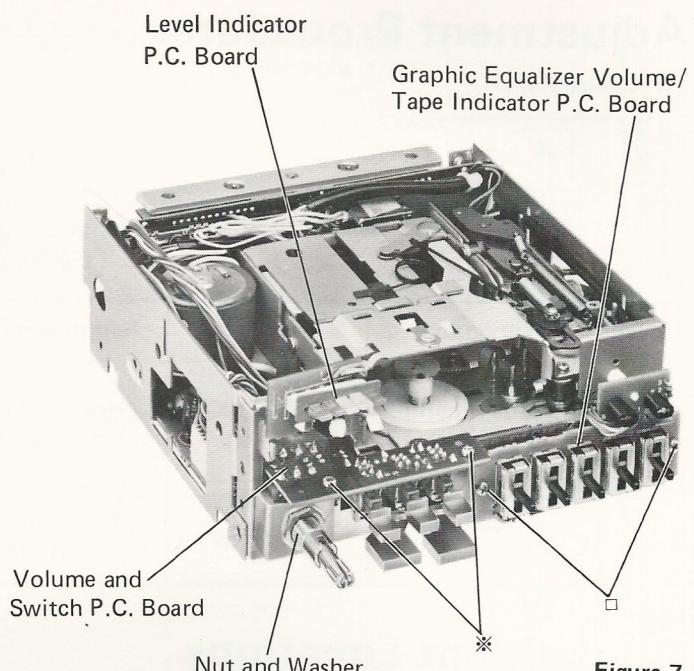

Figure 7
- (1) First, detach the connectors between the graphic equalizer volume/tape indicator P.C. Board and the other P.C. Boards.
- (2) Remove two screws marked "□" as shown in Figure 7 and the graphic equalizer volume/tape indicator P.C. Board can be removed out.
- (1) First, remove the level indicator P.C. Board and then detach the connectors between the volume and switch P.C. Board and the other P.C. Boards.
- (2) Remove the washer and nut from the volume control shaft and remove two screws marked “※” as shown in Figure 7.
- (3) The volume and switch can be completely removed out.